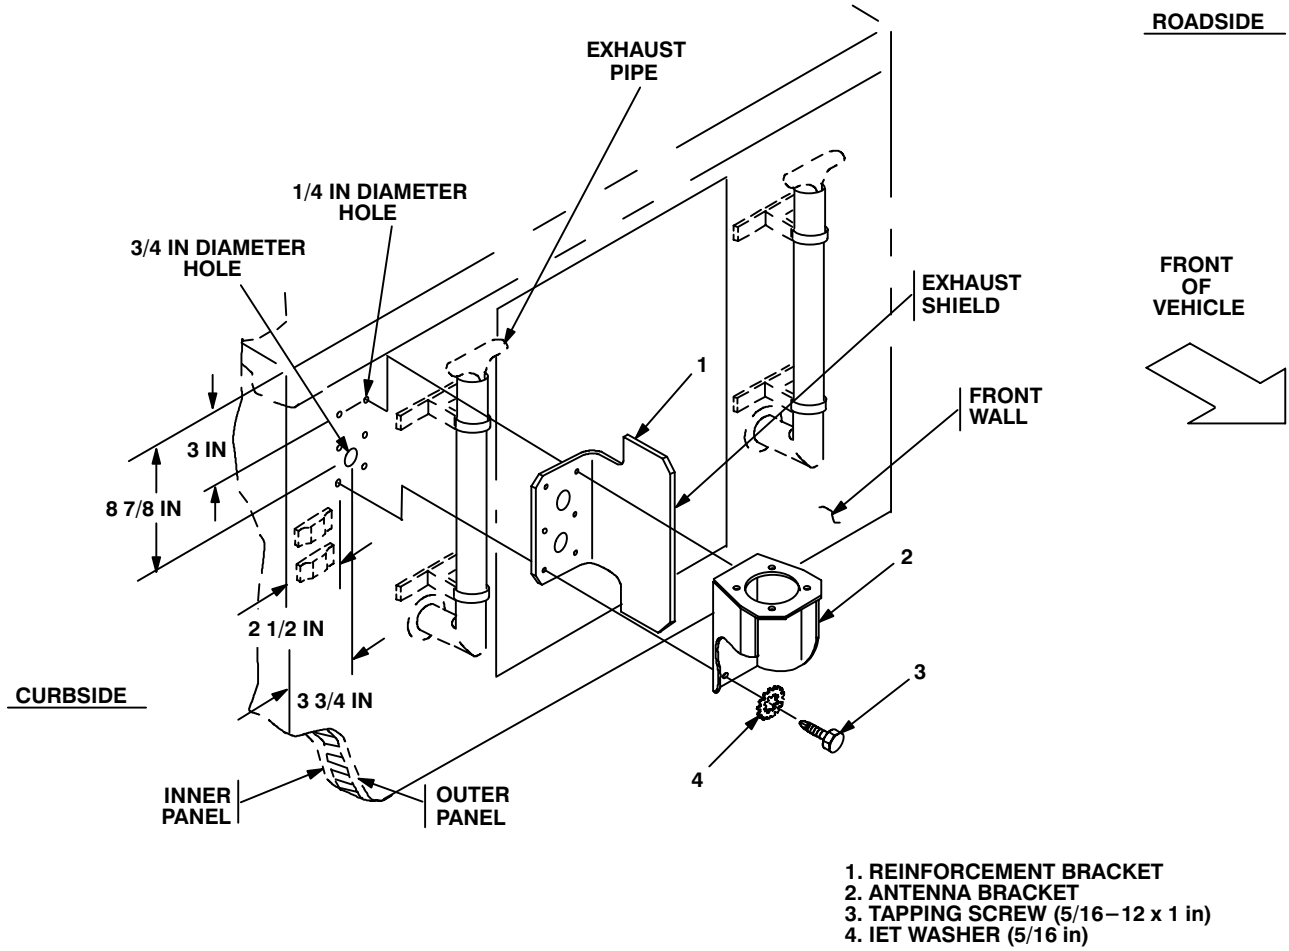

Figure 5-2 (1). Antenna Base Installation: Installing Antenna Bracket
e. Gasket (4).	Place on antenna bracket (5) and align with mounting holes. See figure 5-2 (2).
f. Antenna base (1).	Place on top of gasket (4) and antenna bracket (5). Align mounting holes.
g. Four cap screws (2), eight IET washers (3) and four nuts (7).	Install and secure to antenna base (1) and antenna bracket (5).	Tools: 9/16 in socket and 9/16 in wrench.
h. Ground strap (10), two IET washers (8) and hex-head tapping screw (9).	Install and secure to right bottom hole in antenna bracket (5), reinforcement bracket (6) and front wall.	Tools: 1/2 in socket.